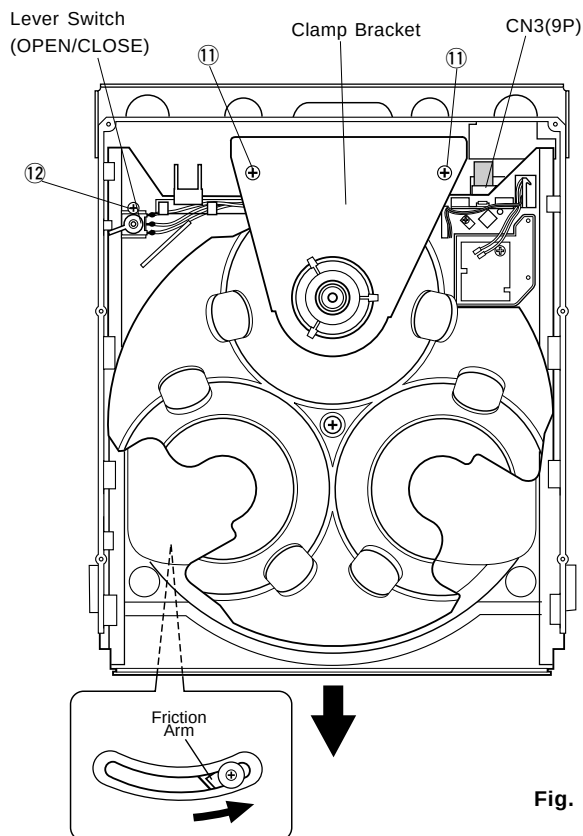

Fig. 10
- Remove 2 screws (⑪) and then remove the Clamper Bracket in Fig. 10.
- Remove 1 screw (⑫) and then remove the Lever Switch in Fig. 10.
- Disconnect the Flat Connecting Cable (9P) in Fig. 10.
- Push the Friction Arm (the bottom side of the CD Mechanical Unit) with a screwdriver or the like and pull out the Tray forward as in Fig. 10.